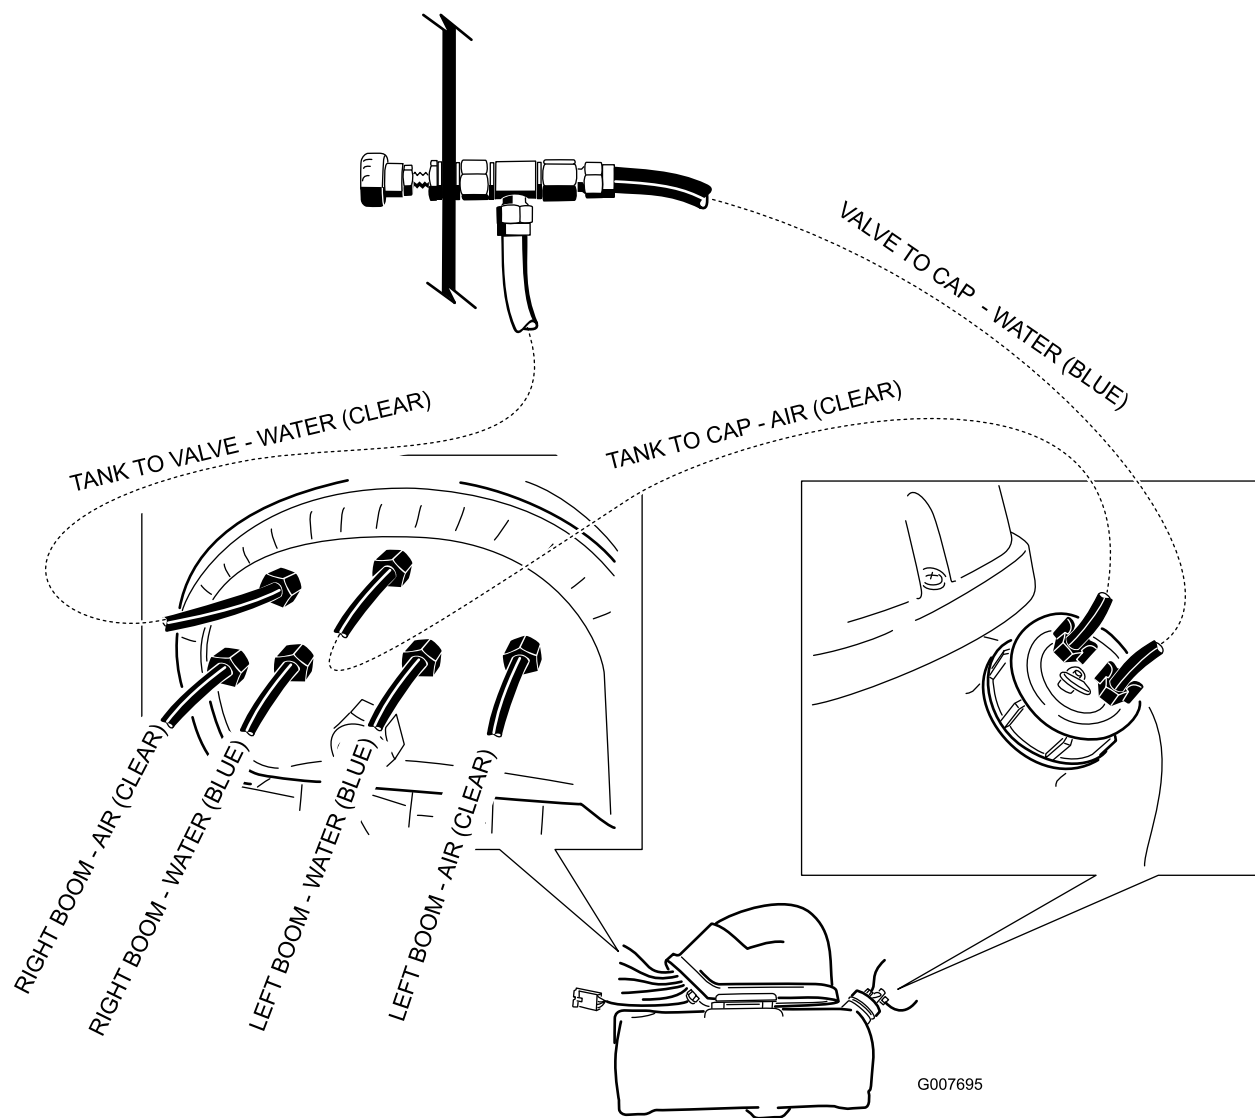

Figure 27
3. The final routing should be as shown in Figure 27.